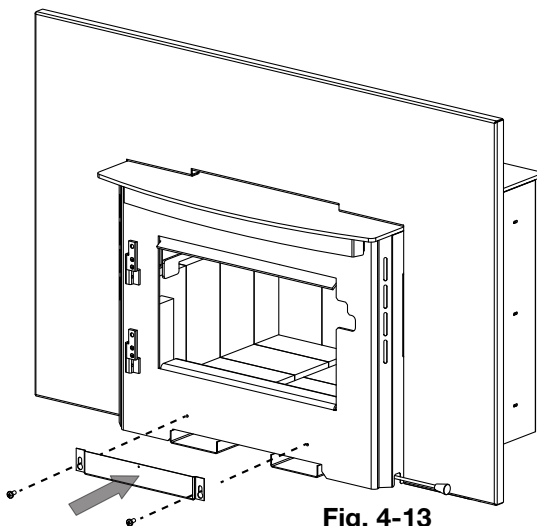

Fig. 4-13
- Install the blower mounting bracket using the two screws from step C (**Fig. 4-13**).